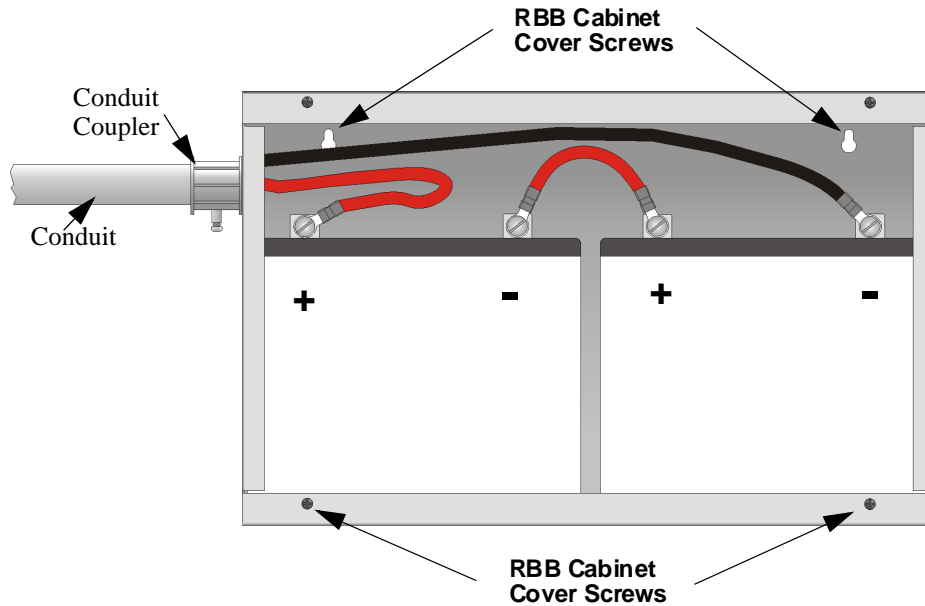

Figure 4-7 Battery Connections in the RBB Cabinet
3. Run extended battery cable from control panel cabinet through conduit to RBB cabinet. See Figure 4-7.
Note: Figure 4-7 is an example of how the wire connections can be routed. However, any other cabinet knock-outs (on either the main control panel or the RBB cabinet), that are not previously being used may be utilized to connect conduit between the two cabinets.
4. Connect battery leads to the backup battery terminals. See Figure 4-7.
5. Insert the RBB cover screws into the cover mounting holes (see Figure 4-7).